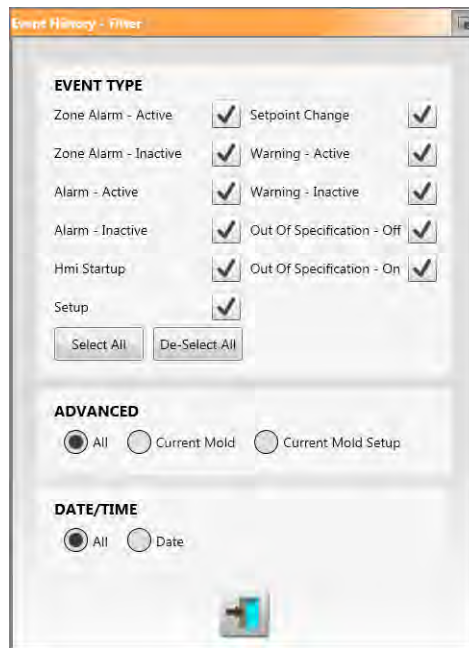

Figure 10-3 Event History Filter Dialog Box
2. Select the one or more filter type(s) in the Event History - Filter dialog box. Refer to Figure 10-3.